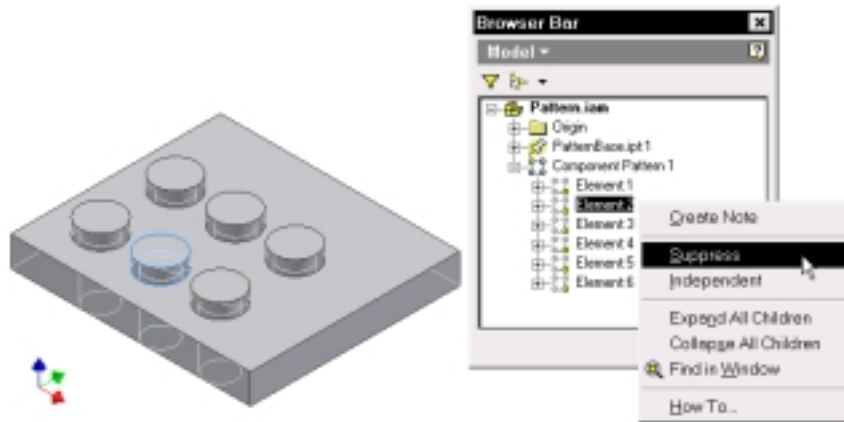

Figure 3-41
21. With reference to Figure 3-41, select an element of the assembly pattern from the browser, right-click, and select Suppress.